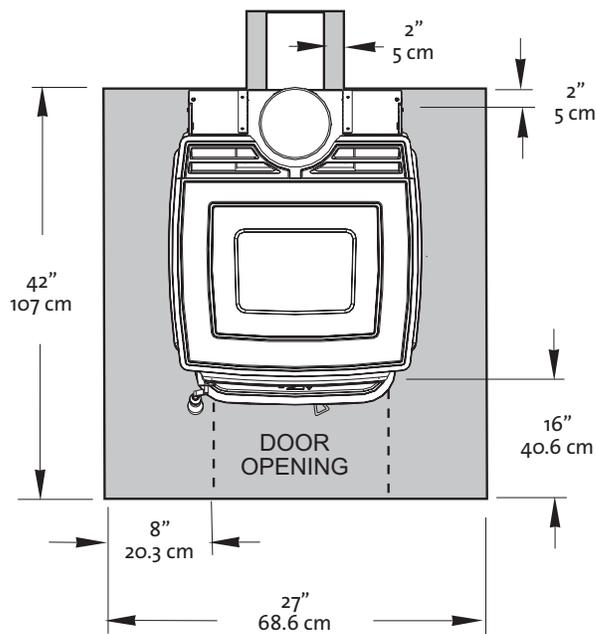

Figure 9. Floor Protection minimum dimensions, U.S.
**In the U.S.** floor protection must extend forward from the door opening at least 16 in. and 8 in. from the sides of the door opening. Protection must also extend 2 in. under any horizontal chimney connector. This will result in a minimum floor protector measuring 27" wide x 42" deep. See fig 9.